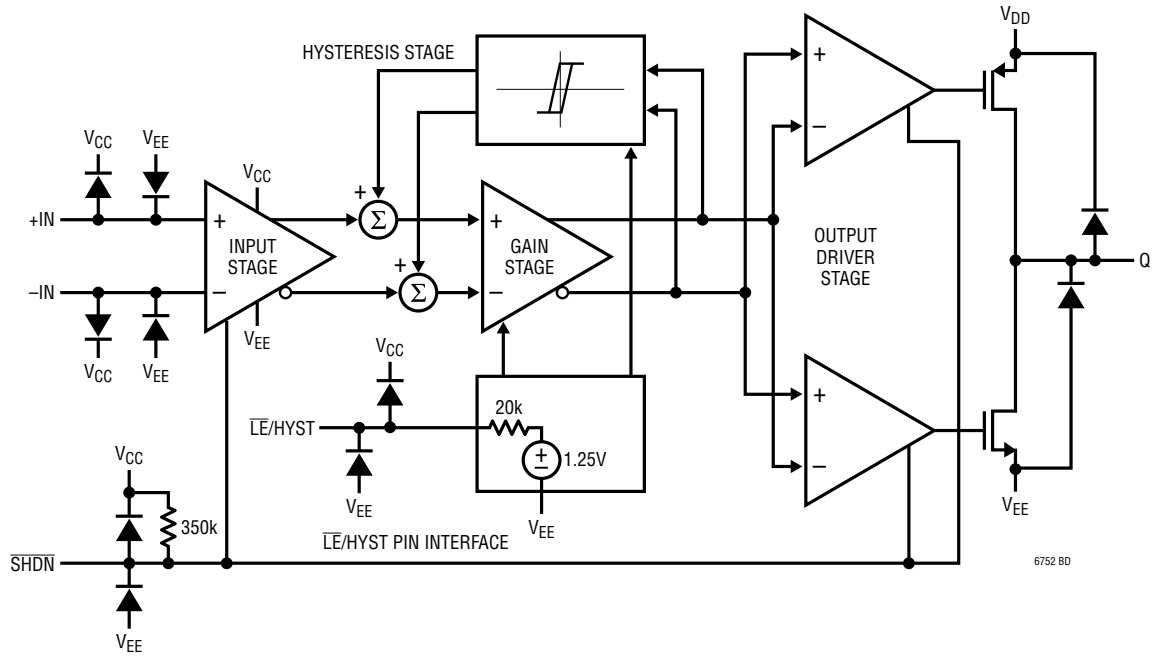

Figure 1. LTC6752/LTC6752-1/LTC6752-2/LTC6752-4 Block Diagram
The block diagram is shown in Figure 1. There are differential inputs (+IN, -IN), a negative power supply ( $V_{EE}$ ), two positive supply pins:  $V_{CC}$  for the input stage and  $V_{DD}$  for the output stage, an output pin (Q), a pin for latching and adjusting hysteresis ( $\overline{LE}/HYST$ ), and a pin to put the device in a low power mode ( $\overline{SHDN}$ ). In the LTC6752 and LTC6752-1, the two positive supply pins are bonded together and referred to as  $V_{CC}$ . The signal path consists of a rail-to-rail input stage, an intermediate gain stage, and an output stage driving a pair of complementary FETs capable of taking the output pin to either supply rail. A Latching/Hysteresis interface block allows the user to latch the output state and/or remove or adjust the comparator input hysteresis. All of the internal signal paths make use of low voltage swings for high speed at low power.
The LTC6752 family members have reverse-biased ESD protection diodes on pins as shown in Figure 1.